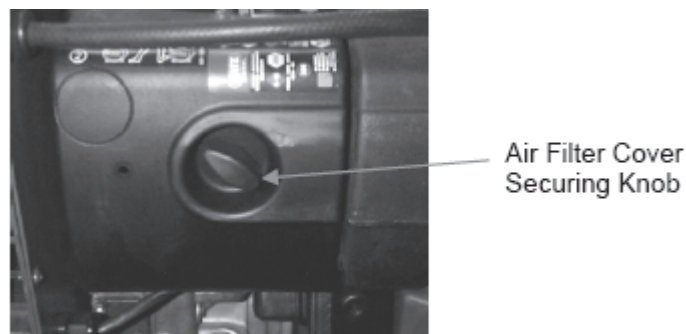

Figure 9 Air filter retaining nut
34.2 Locate the Air Filter Cover and undo the plastic Air Filter Cover Securing Knob (Figure 9).